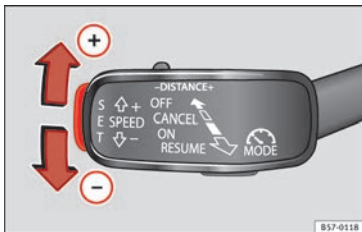

Fig. 179 On the left of the steering column: third lever for operating the Adaptive Cruise Control.
- Press the **(SET)** **» Fig. 179** button to programme current speed.
- To increase or reduce speed step by step, press the lever up/down briefly **» Fig. 179.** **»**